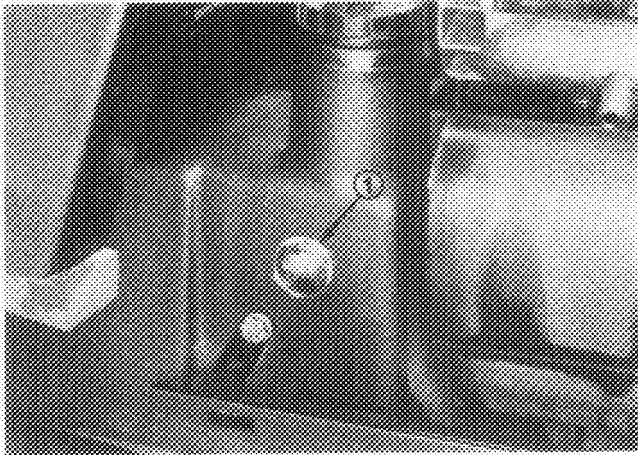

**Figure 41**
## CHANGING HYDRAULIC OIL (Fig. 41 & 42)
2. Remove drain plug from rear of reservoir and hydraulic line from front of reservoir (Fig. 41) and let hydraulic oil flow into drain pan. Reinstall and tighten plug and line when hydraulic oil stops draining.